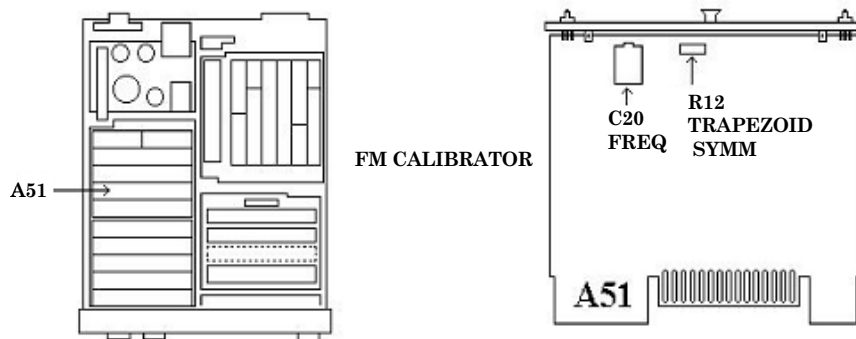

Figure 8. A51 board.
(11) Disconnect all external equipment from TI and connect TI sensor module to TI **CALIBRATION AM/FM OUTPUT**.
(12) Press TI keys as listed in (a) through (d) below:
(13) Adjust A51C20 FREQ (fig. 8) for a TI display between 1009000 and 1011000. (R)
- (14) Press TI keys as listed in (a) through (d) below:
- (15) Alternately switch TI **DETECTOR** between **PEAK+** and **PEAK-** and note the display for each detector.
- (16) Adjust A51R12 TRAPEZOID SYMM (fig. 8) until the readings are the same for both detectors within ± 0.010 kHz. (R)
- (17) Press TI keys as listed in (a) and (b) below:
- (18) Allow TI to take at least two readings.